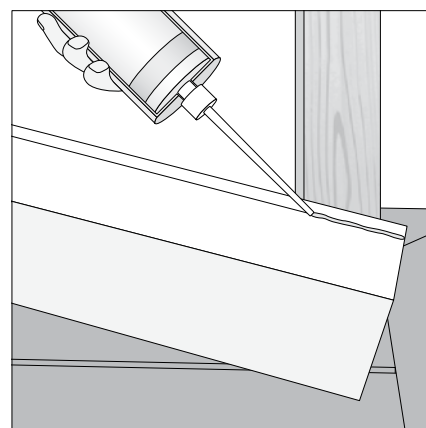

Fig. 2
- Apply a small bead of Kleer Cellular PVC Adhesive (4-7 or 20-25 Minute Work Time) to the outside of each of the joints along the length of the KLEERWrap Post Wrap (**Fig. 2**).